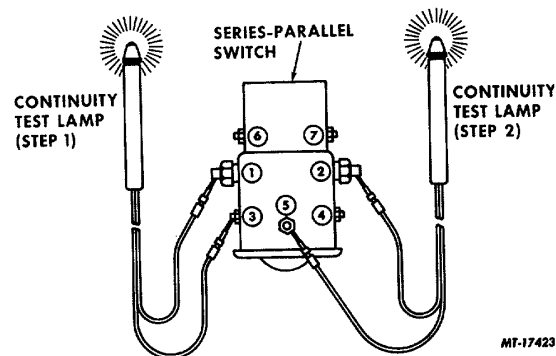

Figure 6 Continuity Test Lamp Connections for Making Charging Terminal Continuity Test
1. Connect a continuity test lamp between terminals 1 and 3 (Figure 6). Test lamp should light.
2. Connect continuity test lamp between terminals 2 and 5 (Figure 6). Test lamp should light.